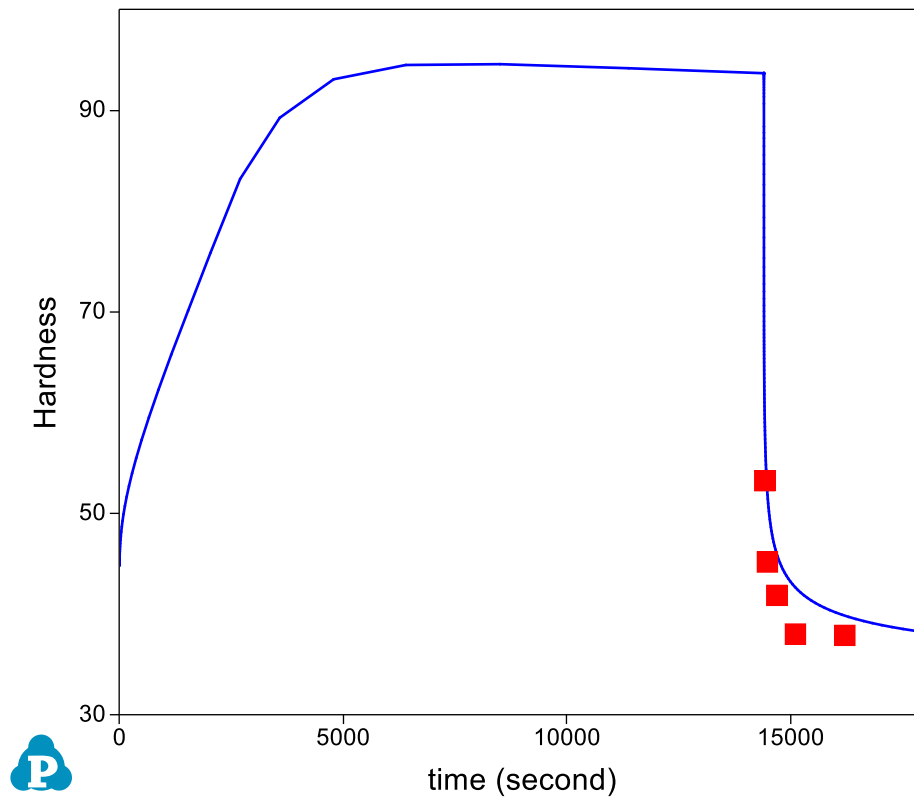

Figure 3.5.5: Calculated evolution of hardness with experimental data
- Figure 3.5.5 shows the calculated evolution of hardness with experimental data. It is seen that the hardness increases gradually during ageing at 185°C. It drops quickly when heating up to 350°C;